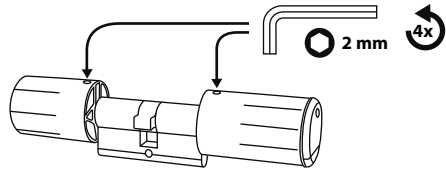

Fig. 99
- 2 Remove the two hexagonal screws in the two knobs with the enclosed hexagonal spanner (Fig. 99).